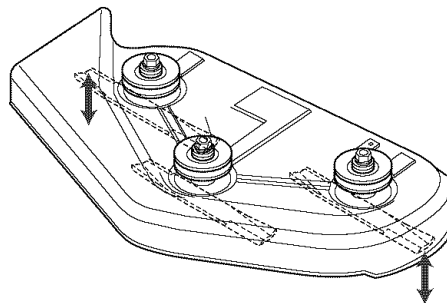

Figure 40. Orient Blades Side-to-Side
4. Set the cutting height to mid position. Arrange the mower blades so that they are pointing from side-to-side (Figure 40).